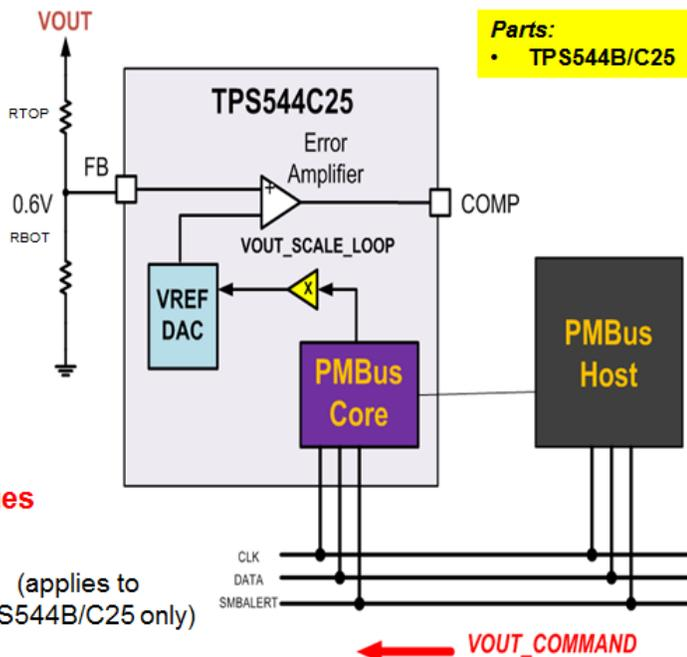

Figure 2. AVS through PWM Output.
- AVS through PWM output. In this case, an injected current into the resistor divider changes the output voltage (Figure 2).